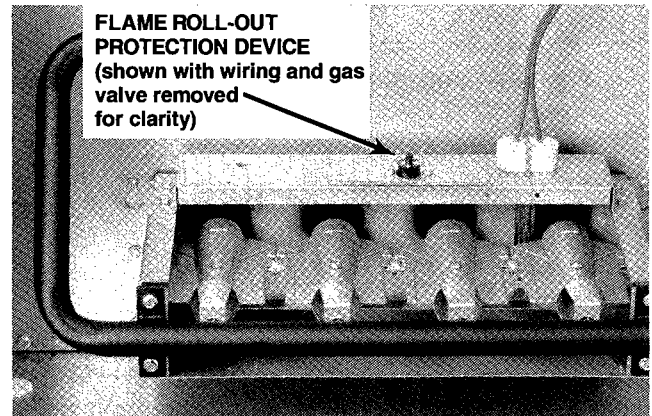

Fig. 11 — Roll-Out Protection Device
UPFLOW ROLL-OUT PROTECTION CONTROL (Fig. 11)
If the flames from the burners are not properly drawn into the heat exchanger, a protection device will open causing the gas valve to close. The protection device is located on the manifold assembly. (See Fig. 11) The device shown in Fig. 11 is for alcove/upflow installations.
1. Connect a water manometer or adequate gauge to the "inlet gas pressure" tap of the gas valve. (See Fig. 11).